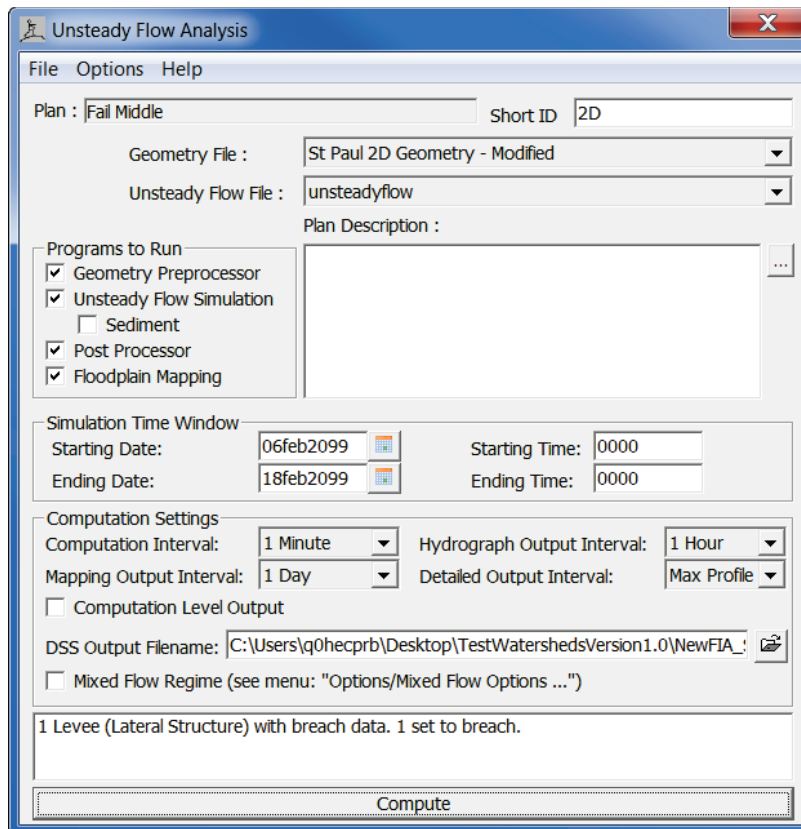

Figure 17.8 HEC-RAS – Unsteady Flow Analysis Dialog Box
2. From the HEC-RAS **Toolbar** click , or from the **Run** menu, click **Unsteady Flow Analysis**. The HEC-RAS **Unsteady Flow Analysis** dialog box will open (Figure 17.8).
3. From the HEC-RAS **Unsteady Flow Analysis** dialog box (Figure 17.8), from the **Options** menu, click **Levee (Lateral Structure) Breach**, the **Levee (Lateral Structure) Breach Data Editor** will open (Figure 17.2). **Note:** Fragility curves may also be associated with inline structures (i.e., dams). This data can be entered on the **Dam (Inline Structure) Breach Data Editor**. The following example will only provide descriptions for the definition of levee breach information. However, the data requirements are similar for inline structures.
8. When the user is finished configuring breach information for the study area in the RAS model alternative. From the **Unsteady Flow Analysis** dialog box (Figure 17.8), from the **File** menu, click **Save Plan** to save changes. From the **File** menu, click **Exit**, the **Unsteady Flow Analysis** dialog box will close (Figure 17.8). From the HEC-RAS main window (Figure 17.7), from the **File** menu, click **Exit**, the HEC-RAS main window will close (Figure 17.7).